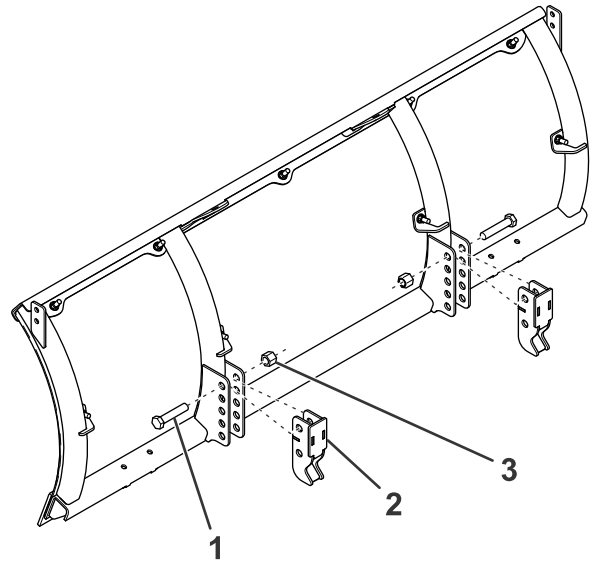

Figure 10
1. Loosely secure the 2 mounting brackets to the plow using 2 bolts (5/8 inch) and nuts (Figure 10).